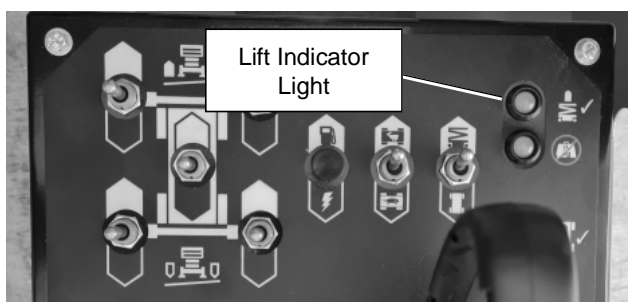

Figure 8.7 – Stabiliser Manual Switches
- Lower the appropriate stabilisers just enough to center the bubbles (see figure 8.6). When the lift indicator light (see figure 8.7) comes on, the platform can be safely raised.